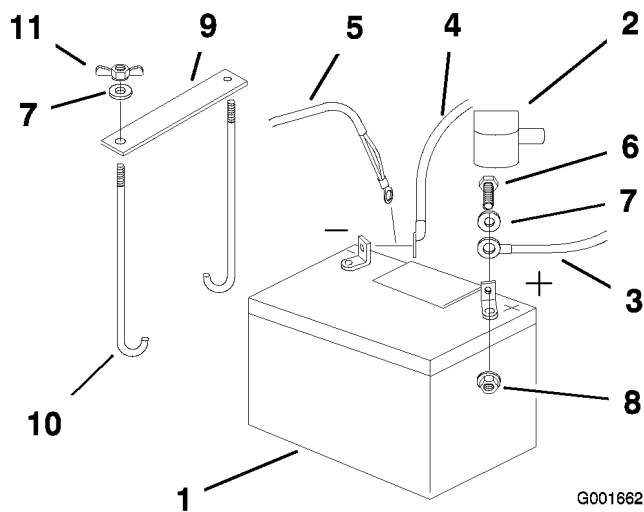

Figure 39
4. First disconnect the negative battery cable and ground wire from the negative (-) battery terminal (Figure 39).
5. Slide the red terminal boot off the positive (red) battery terminal. Then remove the positive (red) battery cable (Figure 39).
- Remove both wing nuts (1/4 inch) securing the battery clamp (Figure 39).
- Position battery in the tray with the terminal posts toward the engine (Figure 39).
- Secure the cables with 2 bolts (1/4 x 3/4 inch), 2 washers (1/4 inch), and 2 locknuts (1/4 inch) (Figure 39).
- Secure battery with J-bolts, hold down clamp and 2 washers (1/4 inch), and 2 wing nuts (1/4 inch) (Figure 39).